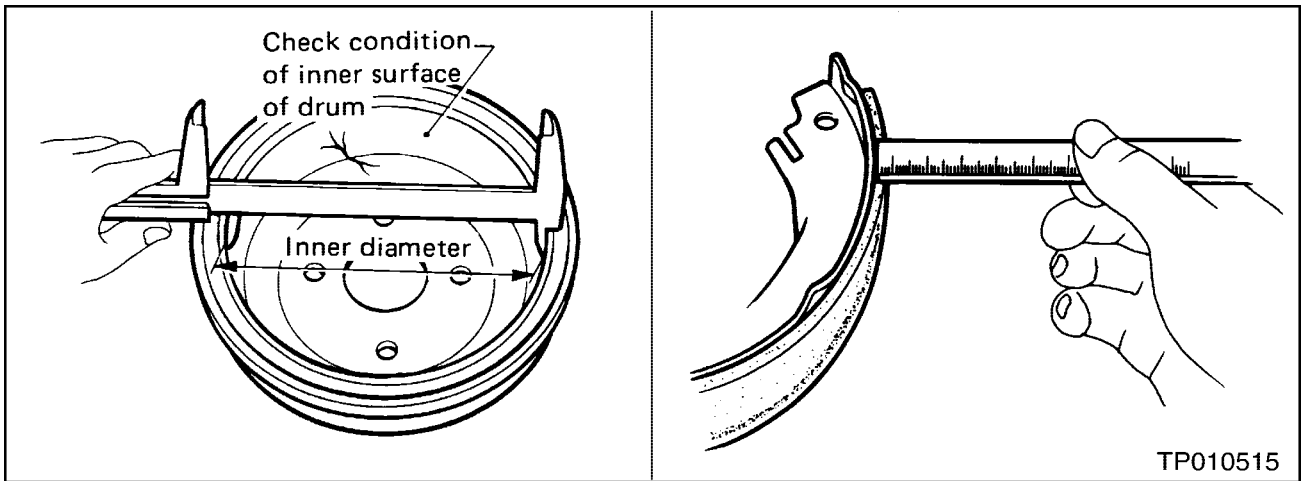

Figure 2
- Brake drum and shoe lining (if equipped) for wear, damage, and condition of surface (see Figure 2).